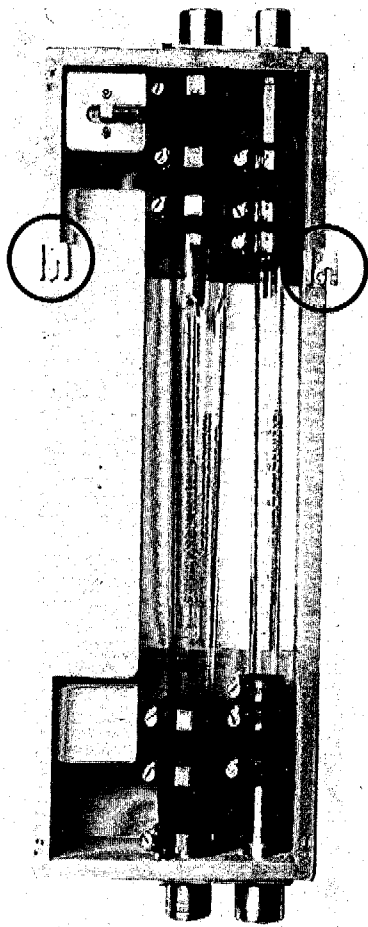

Figure 11
C.13. Notice the hook placement on the body box wall and the back of the calibration equipment box as shown in Figures 11 and 12. They are designed to fit together and provide a secure mount for the calibration equipment box.